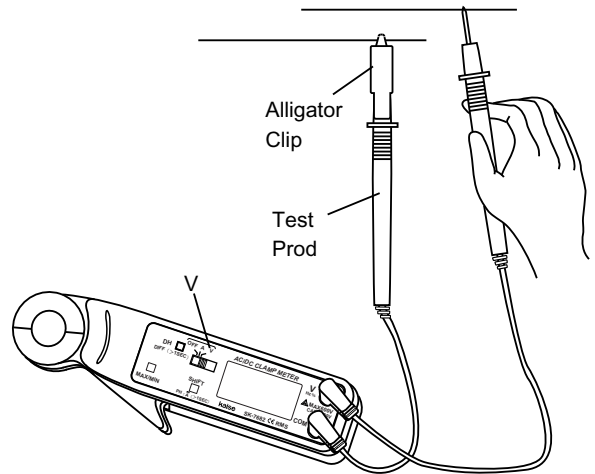

fig. 5
7. Read the voltage on LCD. Refer to the figure 5.